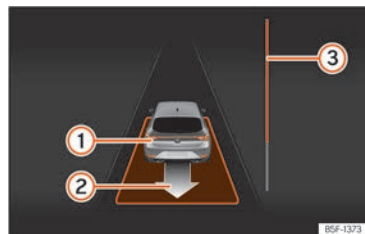

Fig. 202 On the instrument panel display: exit a parallel parking space.
- Reverse until the continuous ParkPilot signal sounds; **OR:** reverse until the instrument panel display shows the forward indication. The progress bar  **Fig. 202**  indicates the distance to cover  **page 284.**